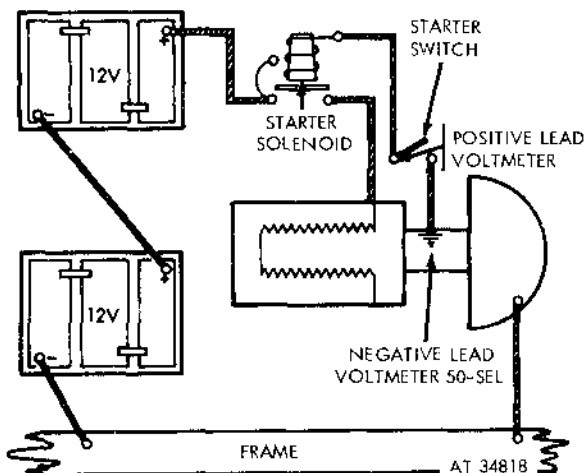

Figure 2-28. Starter switch test.
*a. Starter Switch Test (Gasoline Model) (Fig. 2-28).*
(1) The starter switch is located on top of the starter and is used to ground the starter solenoid and complete the starter circuit.
(2) To check the starter switch, connect the negative (—) lead to vehicle ground, and put the selector on the 50-volt scale.
(3) Connect the positive (+) lead of the voltmeter to the magnetic side of the starter switch. The meter should read battery voltage. If the meter reads battery voltage, the circuit to the switch is complete.
(4) Remove the positive (+) lead and connect it to the other side of the starter switch. The meter should read no voltage.
(5) Connect the positive (+) lead to the relay side of the starter switch and the negative (—) lead to the ground side of the switch. The meter should read battery voltage.
(6) Close the starter switch with the ignition switch set to OFF. The meter should read zero volts.